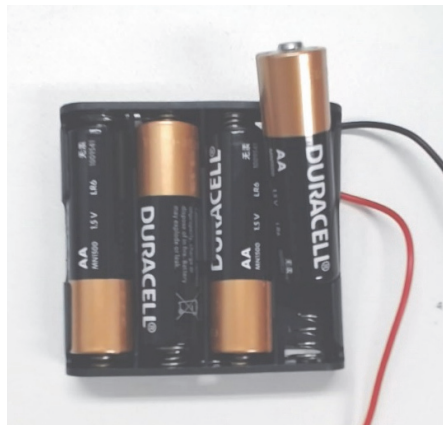

Fig. 4
- 5.1.2 You should keep one battery off from the battery compartment as shown in Fig. 4, when circuit is not powered up.